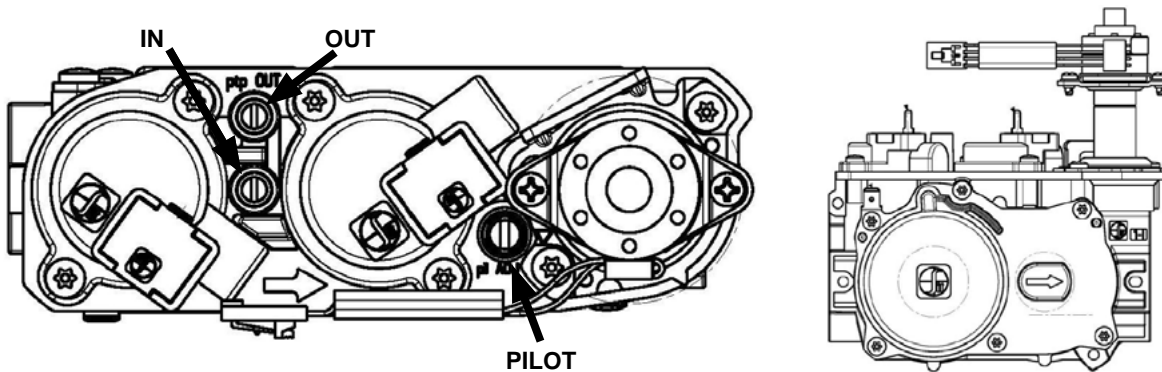

Figure 18.3.01
2. The pressure test taps are located on the valve's front face. The inlet is marked "IN" and the outlet is marked "OUT". See **Figure 18.3.01**.
The flame should not have yellow tips but should engulf the flame sensor and spark electrode. It can be adjusted by turning the screw marked "pilot" on the control valve (See **Figure 18.3.01**).